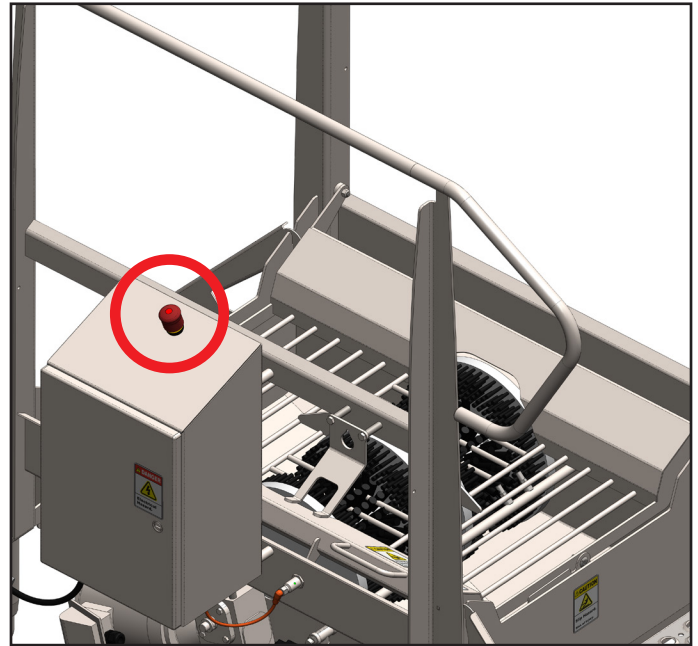

Fig. 7.1: E-Stop illumination
2. Pull the E-STOP switch up and engage power, when illuminated the unit has power [Figure 7.1].